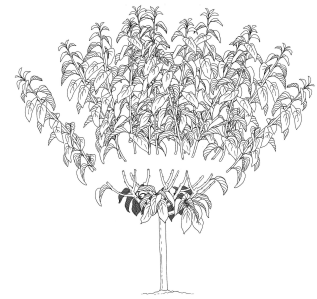

Figure 7
- Prior to the summer solstice (first day of summer), head all leaders to 2–5 inches in length (Figure 7).